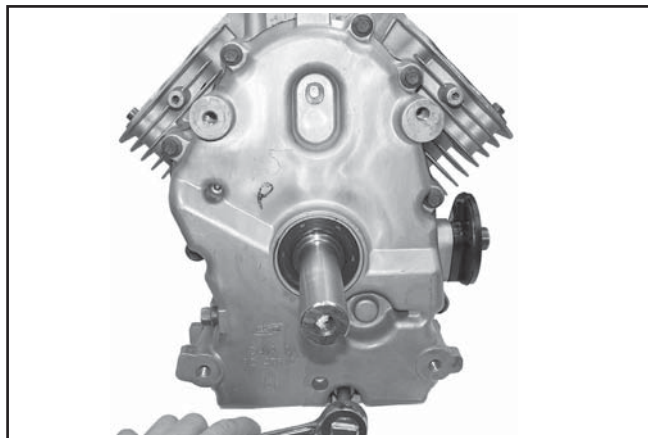

Figure 8-43. Removing Oil Pan Screws.
1. Remove the ten hex flange screws securing the oil pan to the crankcase. See Figure 8-43.